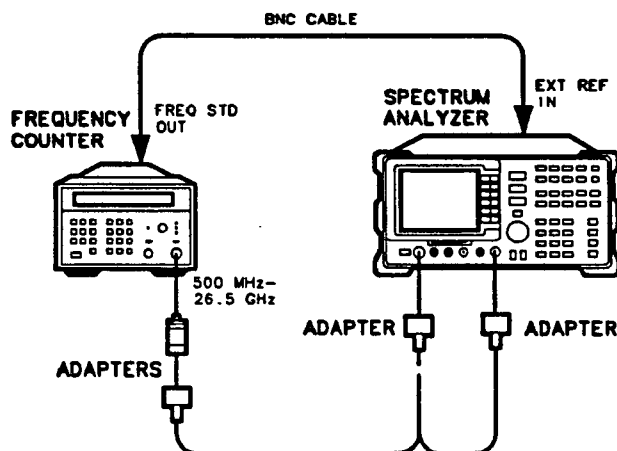

Figure 2-5. Frequency Tracking Range Setup
2. Remove the rear-panel jumper that is between the 10 MHz REF OUTPUT and EXT REF IN jacks. Connect the frequency counter FREQ STD OUT connector to the spectrum analyzer EXT REF IN connector as shown in Figure 2-5.
7. Connect the RF OUT 50 Ω connector to the microwave frequency counter input as shown in Figure 2-5.